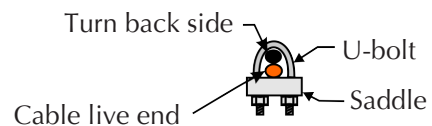

FIG.9
4. Fasten cable clamps as typical cable clamp installation (Fig.9) Cable should be relatively snug.
3. Fasten cable clamps 2 per end and as per typical cable clamp installation (Fig.9). Cable should be relatively snug.